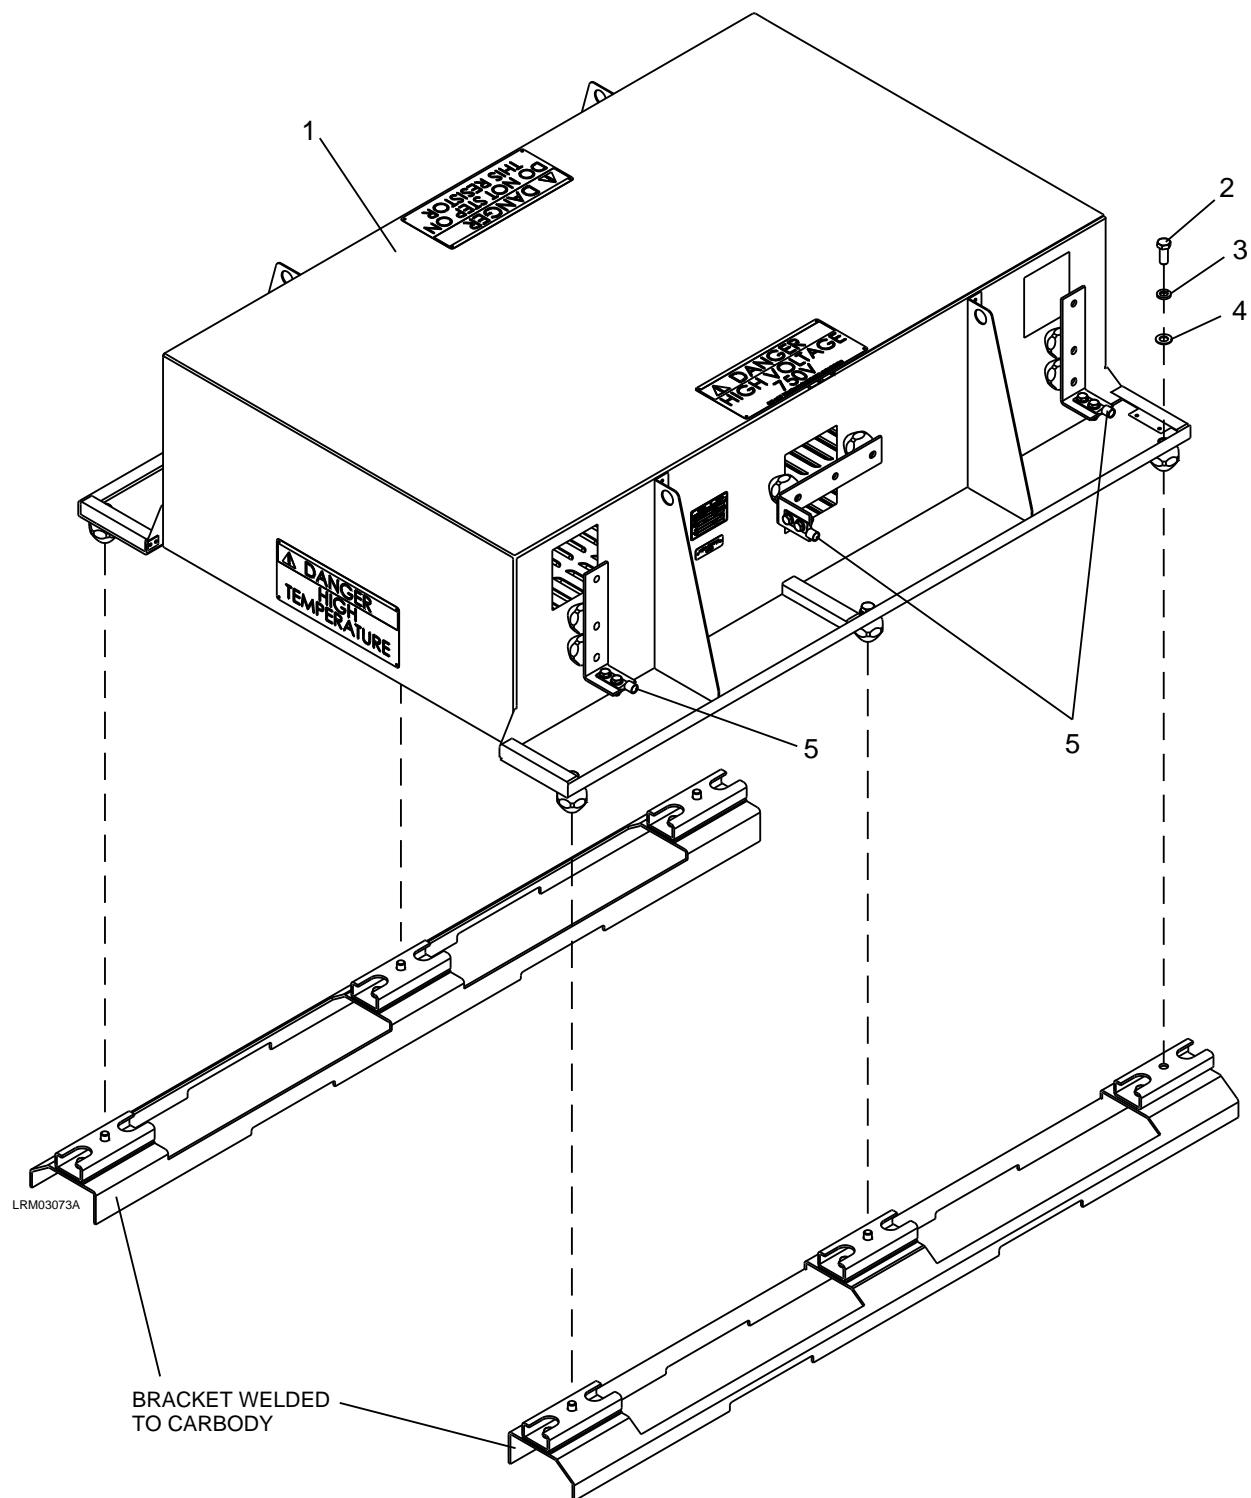

Figure 7-119: Brake Resistor
1. Disconnect the 3/8-16 electrical connections (5) from the Brake Resistor (1).
2. Remove the six 1/2 x 1-1/4 bolts (2), 1/2 lock washers (3), and 1/2 plain washers (4). See Figure 7-119.
3. Carefully remove the Brake Resistor (1). Refer to Section 0700, Propulsion of the Heavy Repair Maintenance Manual for additional information.